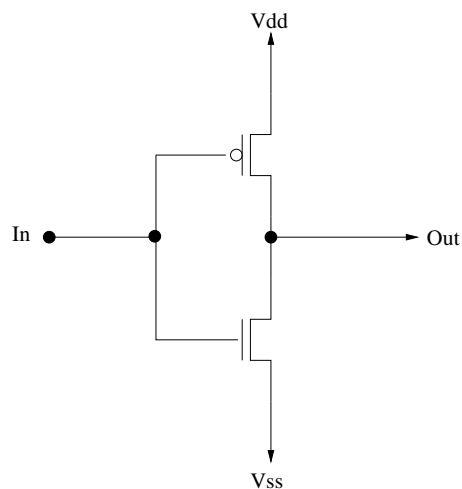

Figure 1: transistors diagram of a C-MOS inverter
- draw the inverter "stick-diagram" `inv_x1` whose transistors diagram is represented on the figure 1.